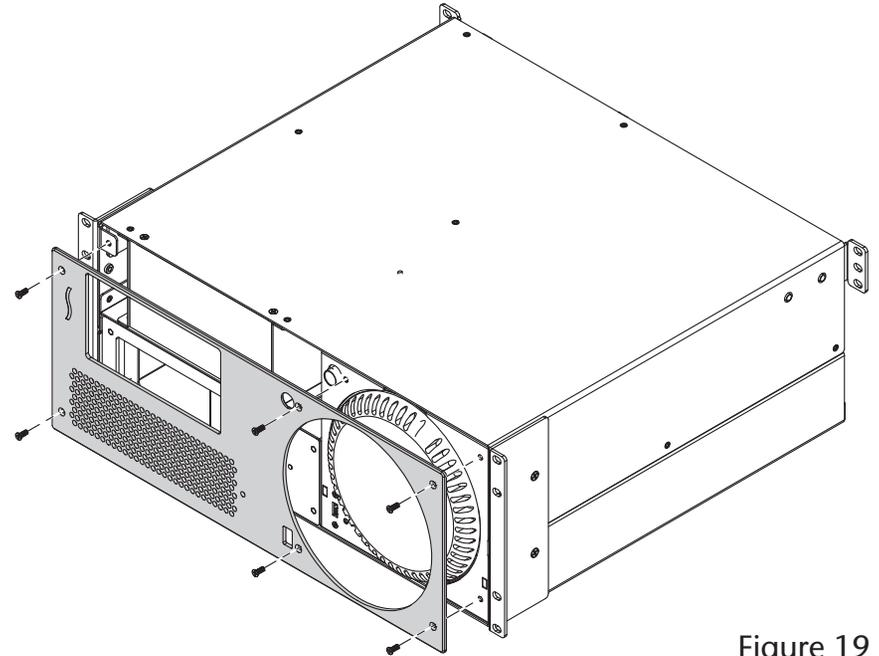

Figure 19
3. Using a Phillips screwdriver, remove and set aside the six screws securing the front panel to the rackmount enclosure, being careful to prevent the front panel from falling off (Figure 19). Set aside the front panel.